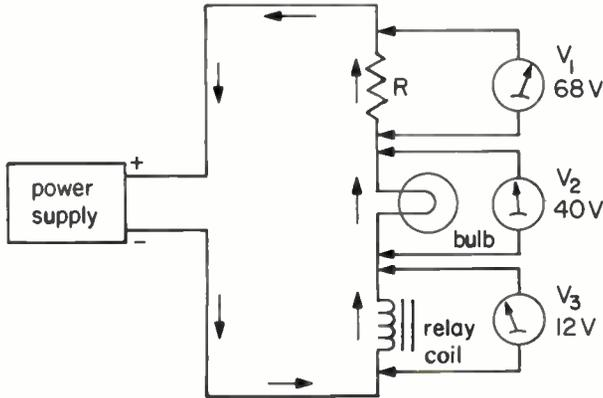

Fig. 49
1. What must the power supply voltage be in Fig. 49?
2. What voltage rating should the bulb in Fig. 49 have in order to operate at normal brilliancy?
3. The relay used in the circuit of Fig. 49 should have a coil designed to operate at _____ volts.